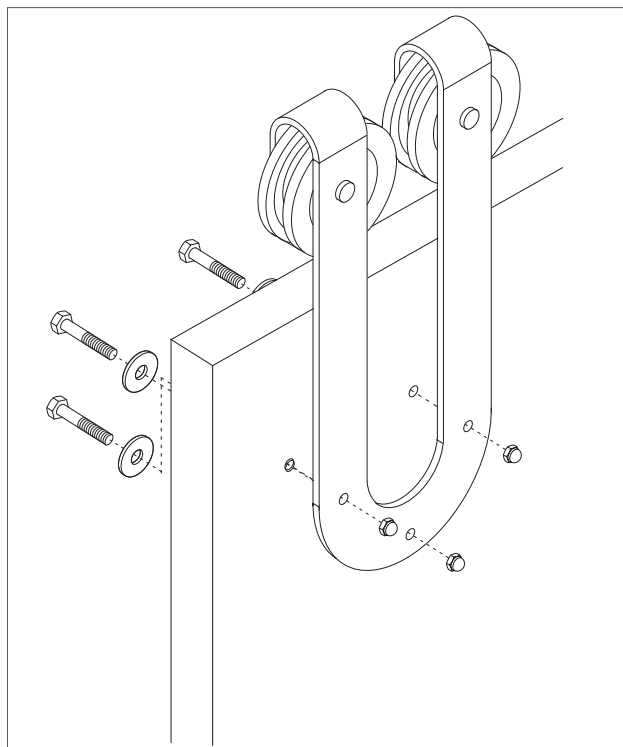

Figure 6
9. Install the hangers to the front of the door using lag bolts, washers, and acorn nuts (provided) (Figure 6).